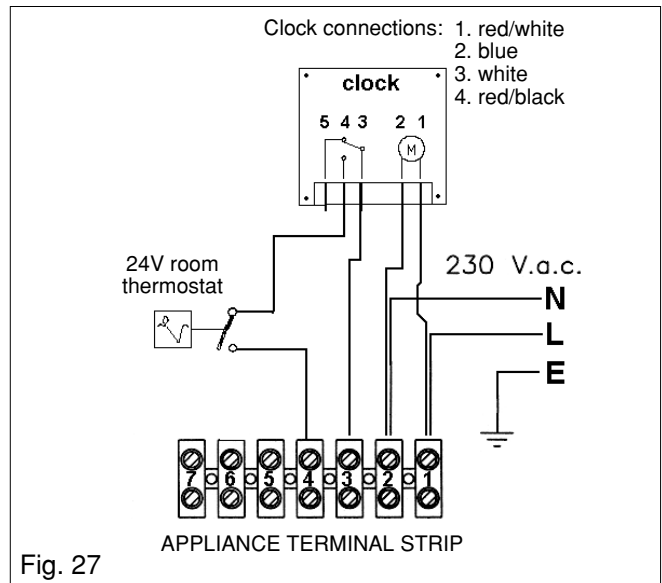

Fig. 27
- Connect the wires to the clock as shown in fig. 27.
- Connect the clock wires to the appliance terminal strip as shown in fig. 27.